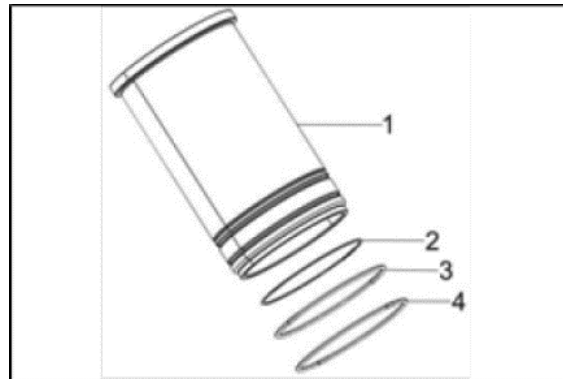

Figure 82.
4. Disassemble the O-rings from the cylinder liner (Figure 82).